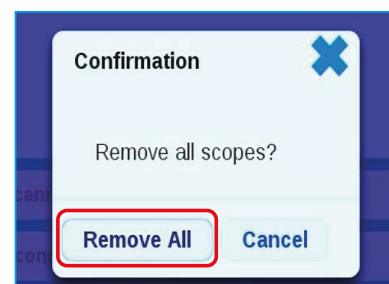

Fig. 64
4. Press **Remove All** to remove all scopes (Fig. 64).